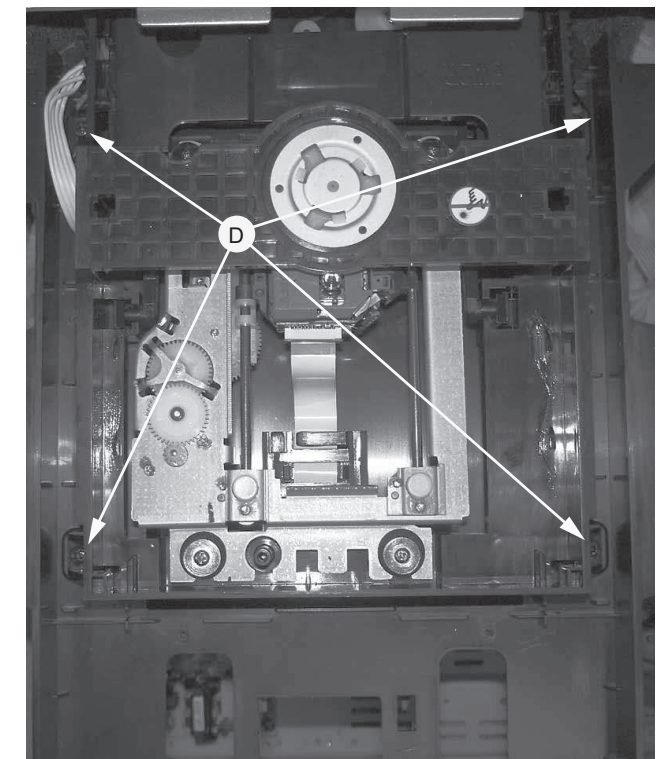

figure 6
- 5) Loosen the 4 screws "D" at DVD loader as shown in figure 6